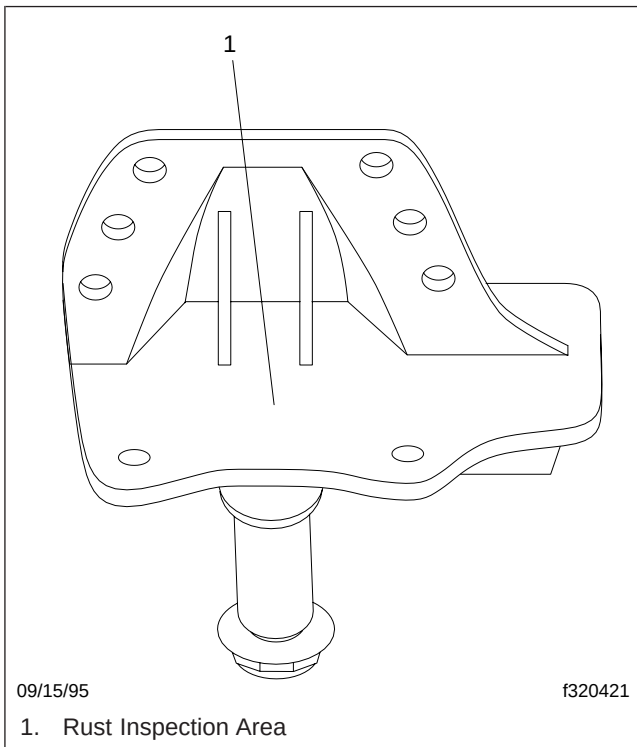

Fig. 10, Hendrickson RS Series Rust Inspection
4. Inspect each frame hanger for severe rust on the horizontal mounting flange adjacent to the vertical drive pin area. See **Fig. 10**.